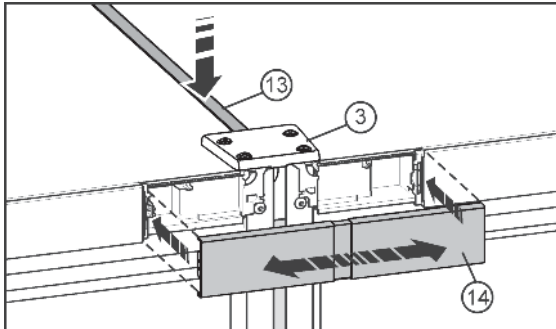

Fig. 28
- ▶ On the top, press the short trim *Fig. 28 (13)* into the gap. The trim must form a flush finish with the connecting plate *Fig. 28 (3)* on the front edge.
- ▶ Snap the cover *Fig. 28 (14)* onto the open space between the two control panel trims. Make sure that the outer surfaces of the cover form a flush finish with the control panel trims. The cover can be extended for this purpose.